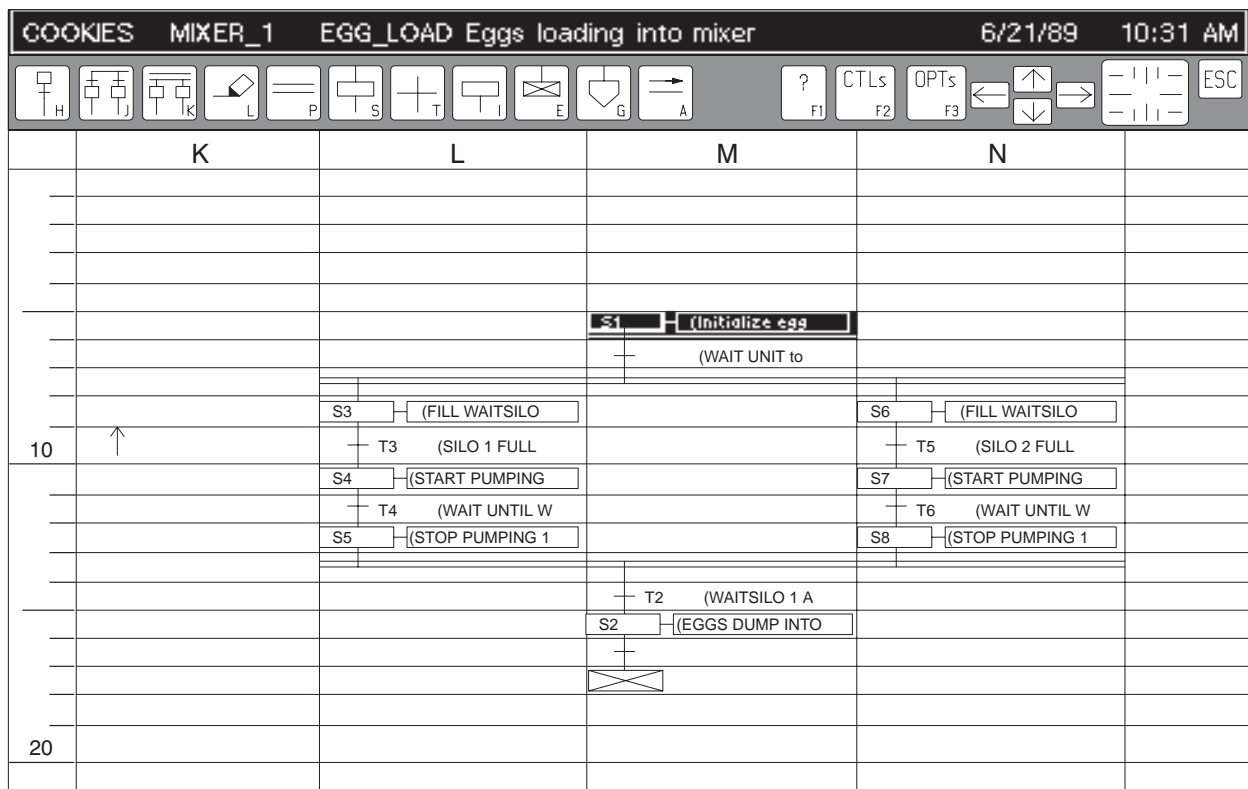

Figure 1-2 Sequential Function Charts
- Sequential function charts (Figure 1-2) define in flowchart form the control sequence and transitions from one operating state to another.